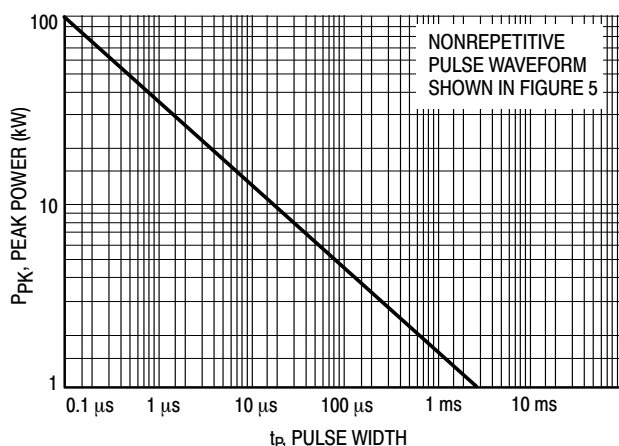
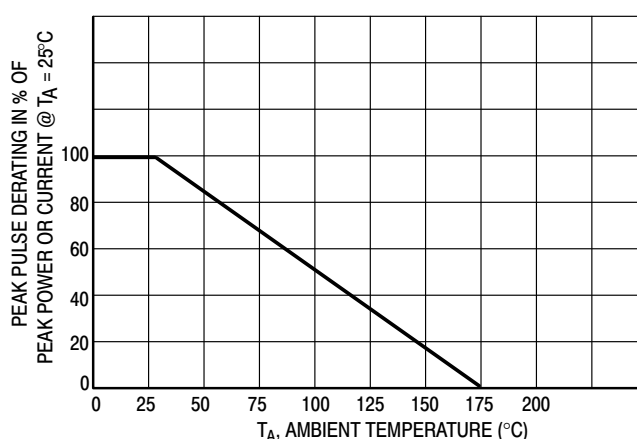
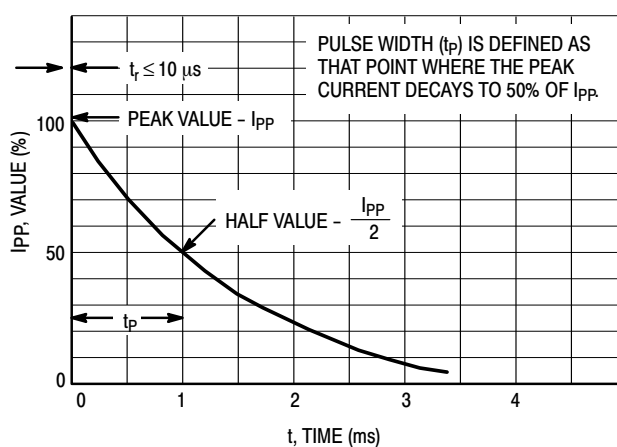
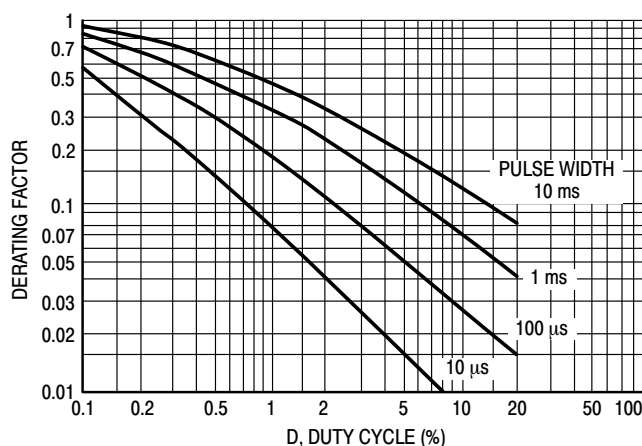

Figure 1. Pulse Rating Curve
Figure 2. Pulse Derating Curve
Figure 5. Pulse Waveform
Figure 7. Typical Derating Factor for Duty Cycle
1. Nonrepetitive current pulse per Figure 5 and derated above $T_A = 25^\circ\text{C}$ per Figure 2.
6. Surge current waveform per Figure 5 and derate per Figures 1 and 2.
The data of Figure 1 applies for non-repetitive conditions and at a lead temperature of 25°C. If the duty cycle increases, the peak power must be reduced as indicated by the curves of Figure 7. Average power must be derated as the lead or ambient temperature rises above 25°C. The average power derating curve normally given on data sheets may be normalized and used for this purpose.
At first glance the derating curves of Figure 7 appear to be in error as the 10 ms pulse has a higher derating factor than the 10 μs pulse. However, when the derating factor for a given pulse of Figure 7 is multiplied by the peak power value of Figure 1 for the same pulse, the results follow the expected trend.